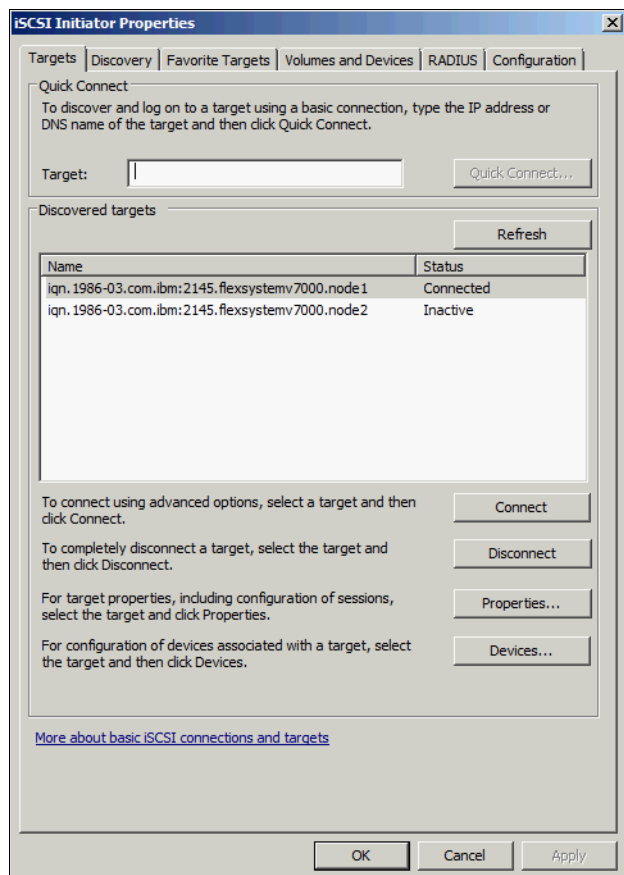

Figure 12-18 Inactive target ports
6. Return to the Targets tab (Figure 12-18) and you find the new connection there is listed as Inactive.